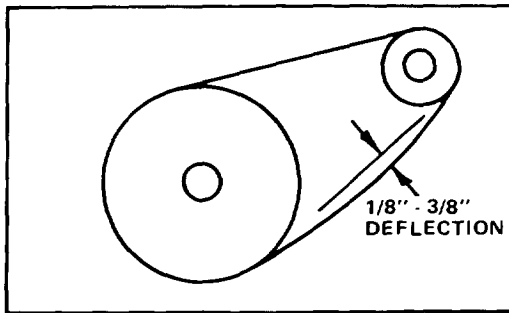

Figure 29
1. Check deflection of chain by lifting up on chain with moderate pressure at mid span. There should be 1/8"-3/8" deflection (Fig. 29). If deflection is not as specified, an adjustment is required.